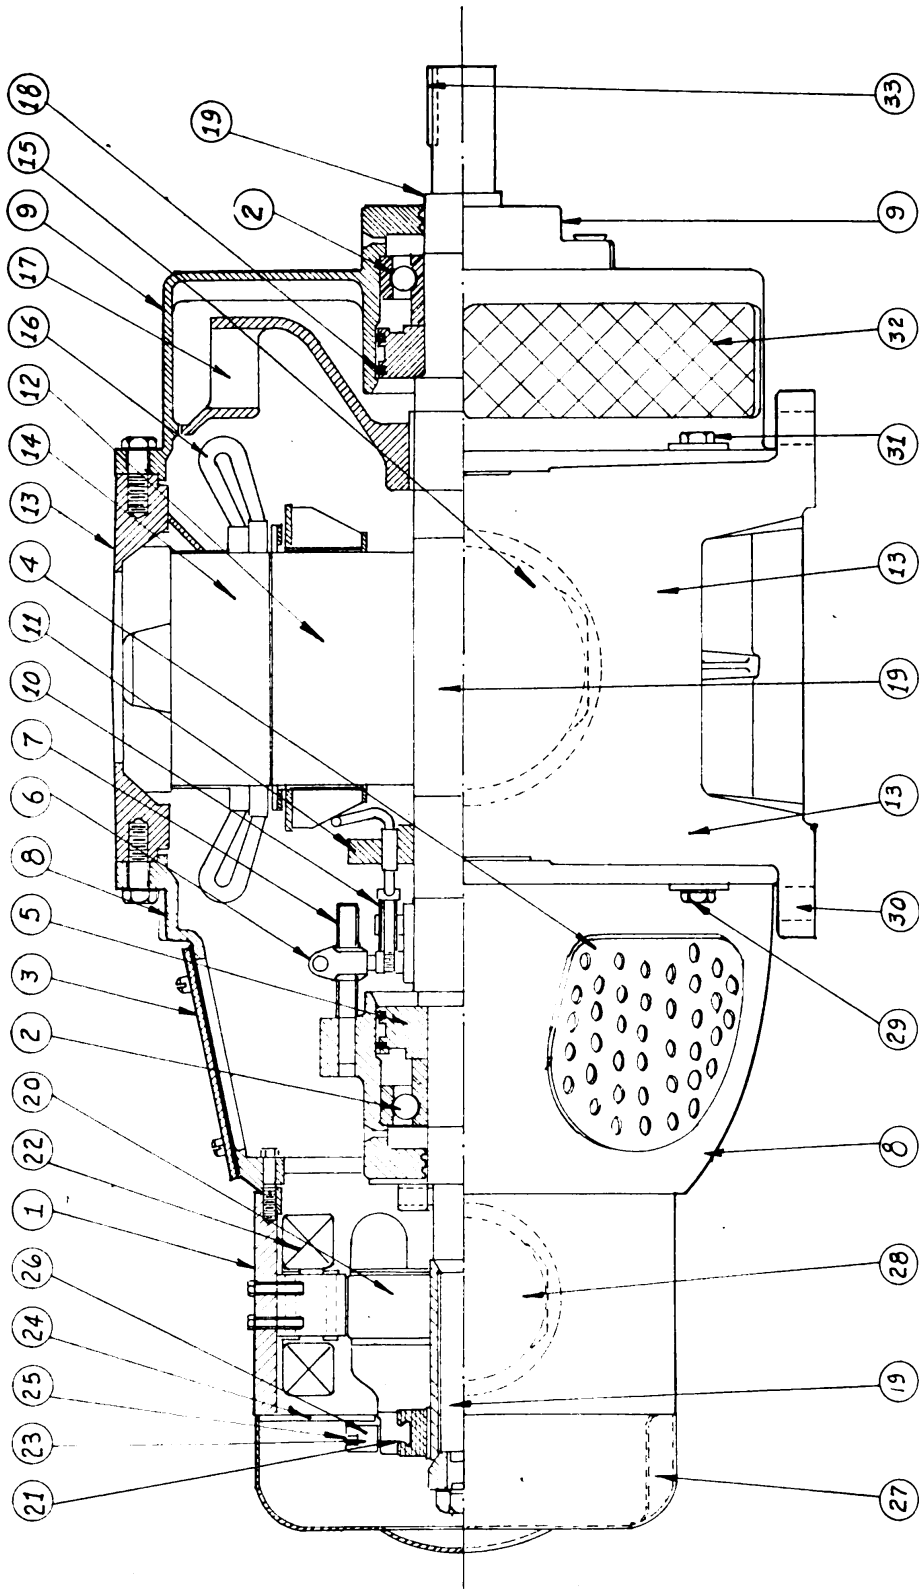

Figure 19. Alternator details.
**53. GENERAL CARE OF ALTERNATOR (fig. 19).**
**a. Protection.** (1) Protect the machine carefully against moisture, both before and after erection. Water or steam from leaking pipes, rain, snow, or condensation from the atmosphere should be excluded. It is particularly important to keep the windings [16, 22] dry since moisture
## LEGEND FOR FIGURE 19.